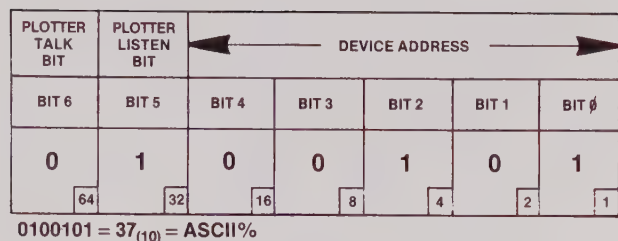
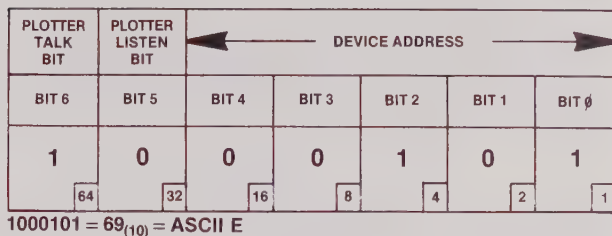

FIGURE 1-8
FIGURE 1-9
When the plotter listen bit (bit 5) is high (ON), the plotter is instructed to receive and process data. When the plotter talk bit (bit 6) is high (ON), the plotter is instructed to transmit data to the controller. The status of these two bits will determine the value of the plotter's ASCII talk command character and listen command character. For example, ASCII % is the listen command character for a plotter with a device address of 5 (see Figure 1-8) and ASCII E is the talk command character (see Figure 1-9). The ASCII character for each plotter talk/listen device address is shown in Table 1-1.